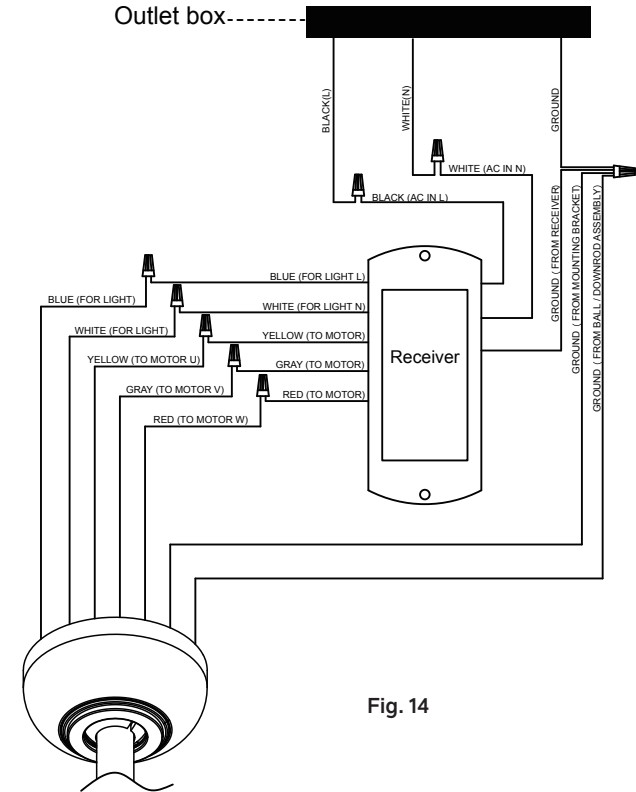

Fig. 14
**Step 1.** Connect the BLUE (FOR LIGHT) wire from the fan to BLUE wire marked "FOR LIGHT L" from the receiver. **(Fig.14)**
**Step 2.** Connect the WHITE (FOR LIGHT) wire from the fan to WHITE wire marked "FOR LIGHT N" from the receiver. **(Fig.14)**
**Step 3.** Connect the YELLOW (TO MOTOR U) wire from the fan to YELLOW wire marked "TO MOTOR" from the receiver. **(Fig.14)**
**Step 4.** Connect the GRAY (TO MOTOR V) wire from the fan to GRAY wire marked "TO MOTOR" from the receiver. **(Fig.14)**
**Step 5.** Connect the RED (TO MOTOR W) wire from the fan to RED wire marked "TO MOTOR" from the receiver. **(Fig.14)**
**Step 6.** Connect the BLACK (L) supply wire from outlet box to wire marked BLACK "AC IN L" from the receiver. **(Fig. 14)**
**Step 7.** Connect the WHITE (N) neutral wire from outlet box to WHITE wire marked "AC IN N" from the receiver. **(Fig. 14)**
**Step 8.** Connect GROUND (GREEN) wires from mounting bracket, hanger ball, and receiver to household GROUND (GREEN) or BARE (COPPER). **(Fig.14)**